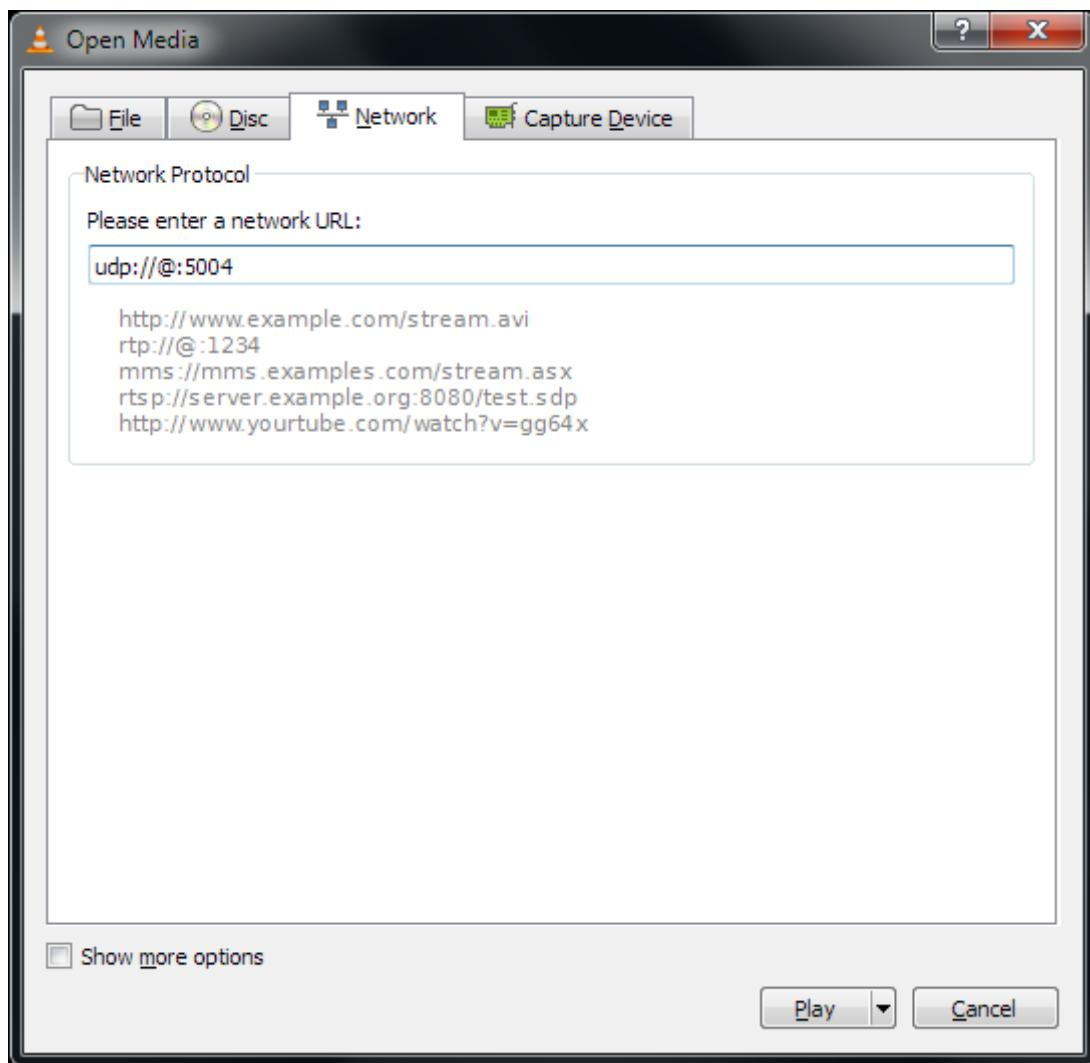

Figure 27: VLC media player
- In the network URL field, enter “`udp://@:5004`” (replacing 5004 with the port number you have specified in the output configuration (see Figure 27).